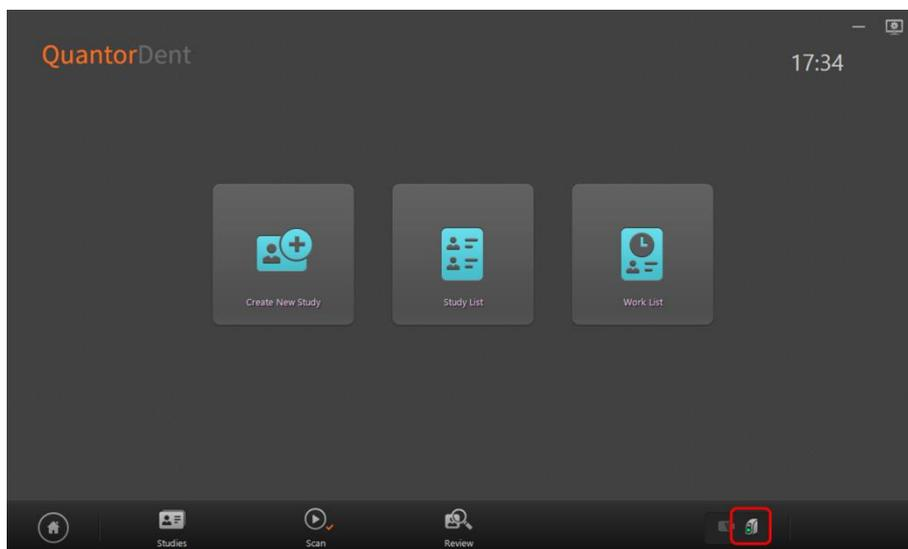
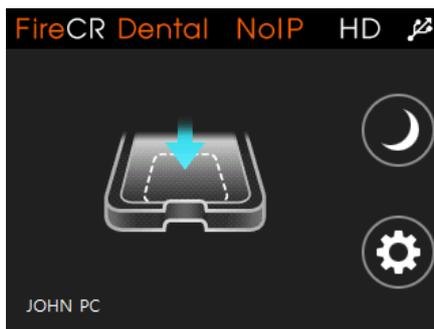

Figure 6.10 Connected
Figure 6.11 Connected
3. The scanner is connected shortly after the QuantorDent program begins. The Scanner icon is displayed in green in the lower right section of QuantorDent as shown in Figure 6.10. The Scanner LCD window is changed as shown in Figure 6.11 and the name of the connected PC is displayed in the lower left section.